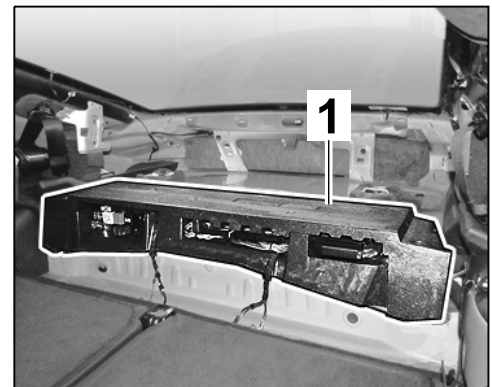

Figure 3
- 1.6.6 Removing moulded part ⇒ *Figure 3 -1-*.